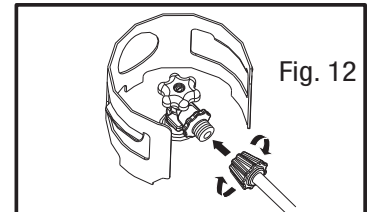

Fig. 12
2. Connect the LPG gas hose to the propane fuel source (Fig. 12).
1. Turn the MAIN switch (Fig. 12) to the "OFF" position.